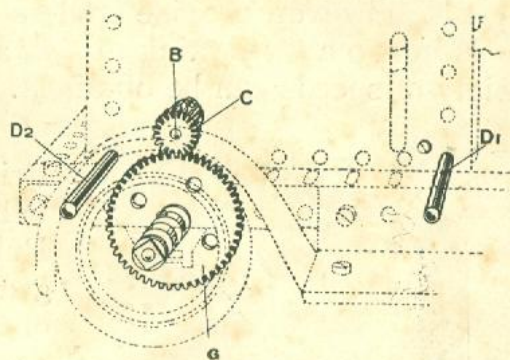

Fig. 2
3. ~~Change the Driving Spindle for a shorter one (B), using a No. 79 Axle; this is done by loosening grub screw of brass pinion wheel inside motor (Fig. 2).~~
4. Fit a No. 161 Pinion Wheel (C) to the new Driving Spindle (B) on the right-hand side of the motor (the flat side) with gears outward (Fig. 2).
5. Fix two No. 77 Axles at lower corners of motor (D1, D2) (Fig. 2), placing two No. 82 Collars—one on right side of D1 and another on left side of D2. Fit two more No. 82 Collars (F) on the right and left sides of rear spindle (D2) to prevent it fouling the wheels (Fig. 1).